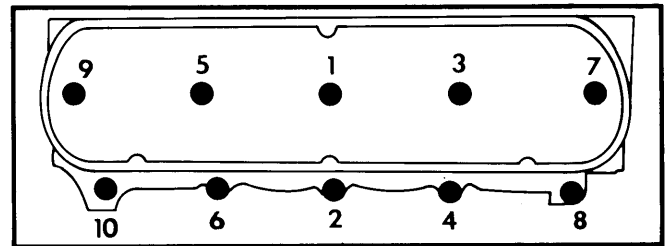

Fig. 2 Tightening Sequence for Cylinder Head
2) Install cylinder heads and bolts. Tighten 5.8L (W) head bolts in 3 steps and all others in 2 steps. Tighten bolts in sequence shown in Fig. 2. Reverse removal procedure for installation of remaining components.